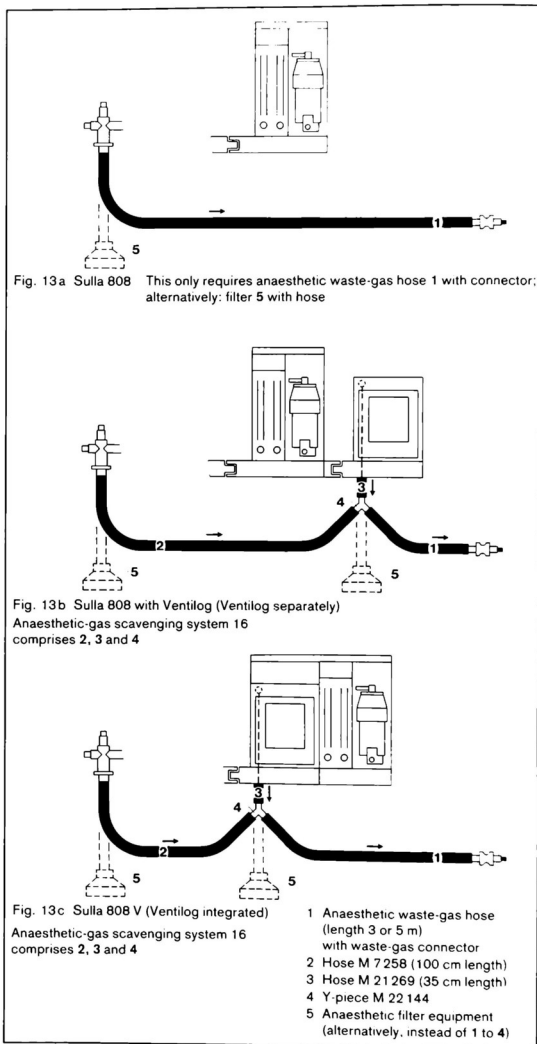

Fig. 13 Anaesthetic-gas scavenging for all models with flowmeter unit – front view (for models with gas blender: see Fig. 20)
4.6 Anaesthetic-gas scavenging (Fig. 13)
Anaesthetic-gas scavenging (Fig. 13)